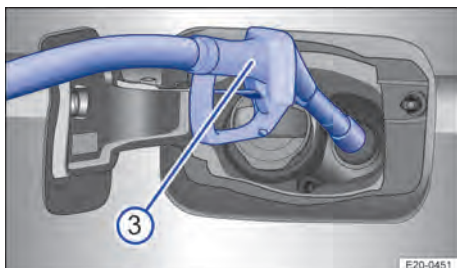

Fig. 177 Behind the tank flap: Refilling AdBlue with a filler nozzle (illustration).
1. In order to guarantee optimum filling, hold the AdBlue® nozzle so that the handle is facing downwards → Fig. 177 ③.